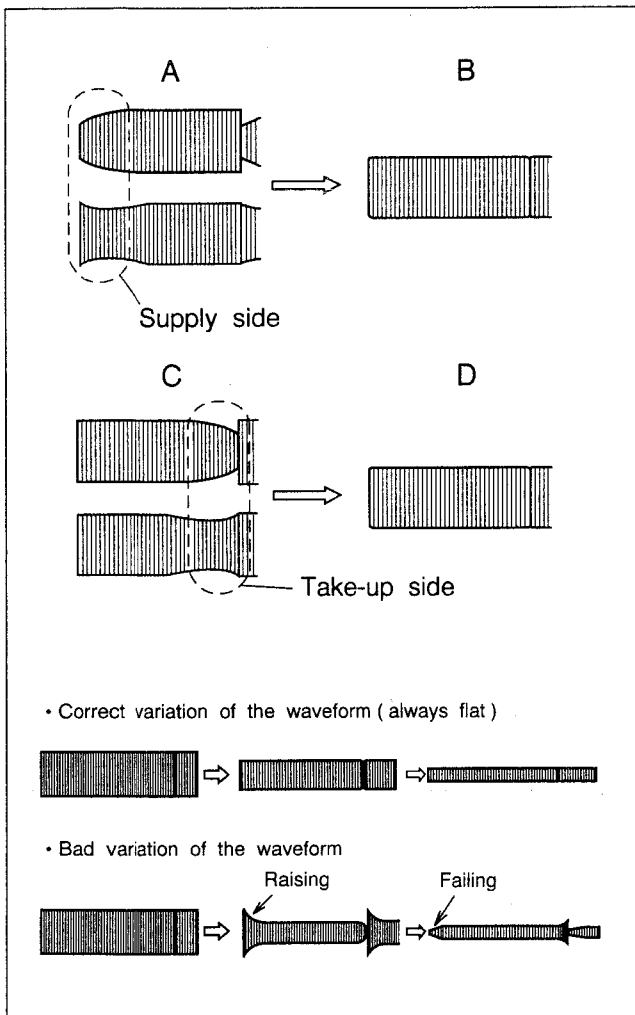

Fig. 2-8-3
- (6) Decrease the FM waveform by pressing the channel button (+, -) of the set during playback. If a drop in level is observed on the left side as shown in Fig. 2-8-3, make the FM waveform linear by turning the supply guide roller on the pole base assembly (supply) using roller driver (PTU94002). If a drop in level is observed on the right side, make the FM waveform linear by turning the take up guide roller on the pole base assembly (take up). (Fig. 2-8-3)
- (7) Then play MHPE-L and check that the FM waveform can be varied in parallel and linearly by the tracking operation. Fine-adjust the guide rollers of the pole base assemblies (supply, take up) as required.
- (8) After completing adjustment, tighten the set screw at the bottom of the pole base assembly. (Be careful not to tighten it too much.)
- (9) After tightening the set screw, play the MHPE and MHPE-L alignment tapes and confirm that the FM waveform varies normally.